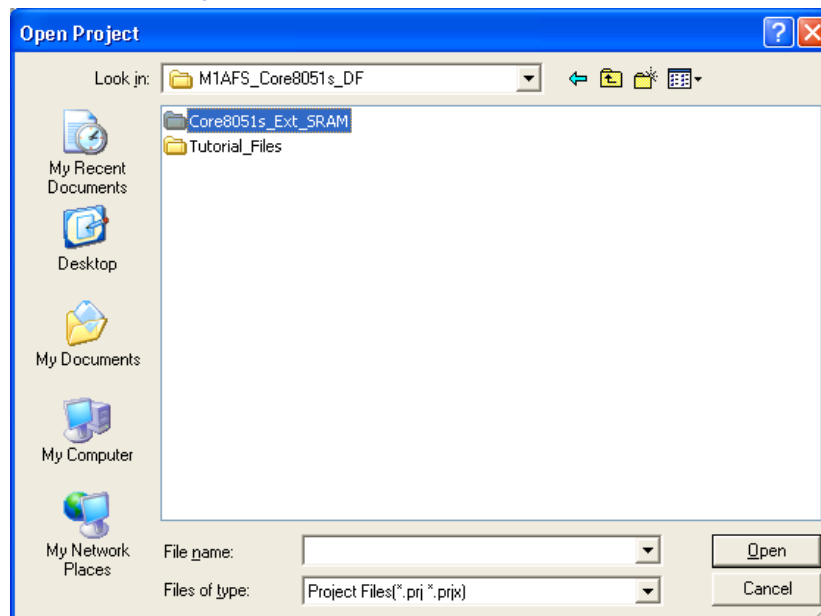

Figure 3 Selecting Project Folder
3. Select the folder (Figure 3) and click **Open**.